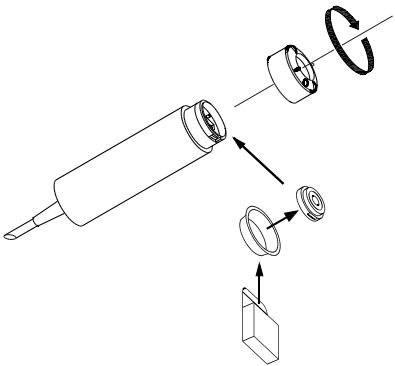

Fig. 5: Inserting sensor unit, DO 1
- ▶ Place the sensor insert into the transmitter as shown in fig. 5 (insert the two lugs on the bottom of the sensor into the corresponding holes on the transmitter).